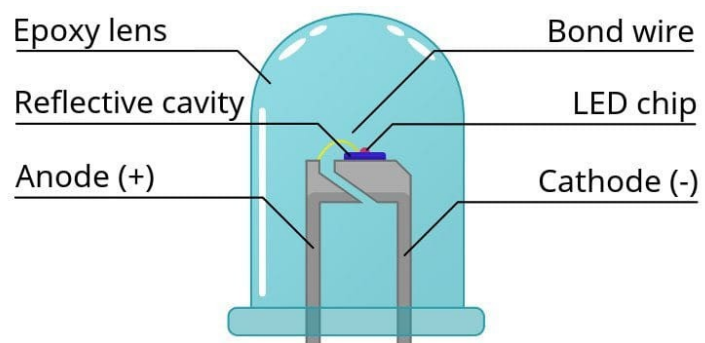

Figure 27: Internal Structure of an LED
- d. Describe the internal structure of the LED as shown in Figure 27